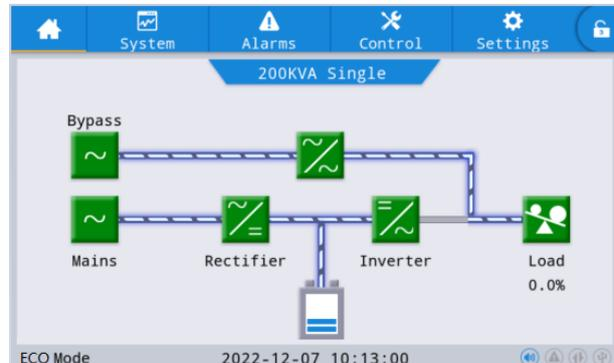

Fig. 4-8 Energy flow chart of the ECO mode
2. Manually close the maintenance switch. At this time, the power is supplied by the maintenance bypass power supply and the UPS static bypass power supply in parallel to loads. After the operation, you can view the energy flow chart on the main page. When the energy flow chart is as shown in Fig. 4-8, UPS successfully enters the maintenance bypass mode.